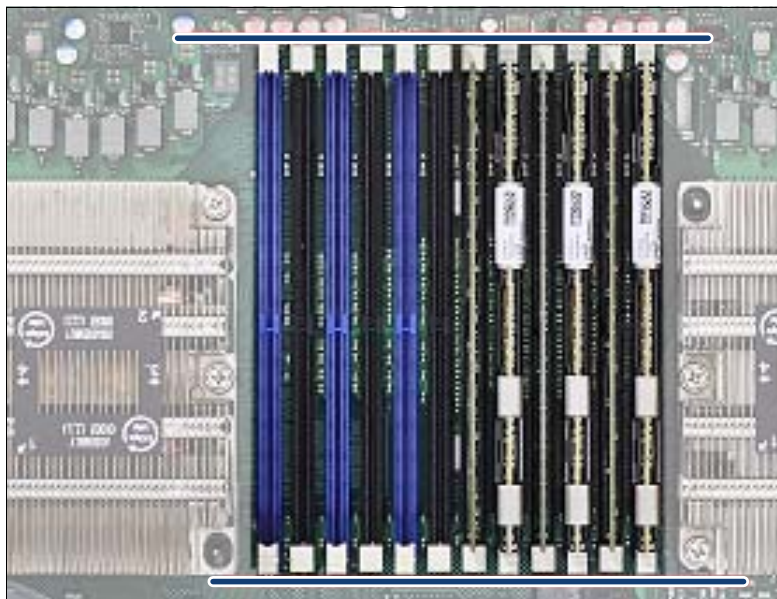

Figure 215: Correct position of securing clips
- ▶ Check if all securing clips are in the correct position (see figure 215).